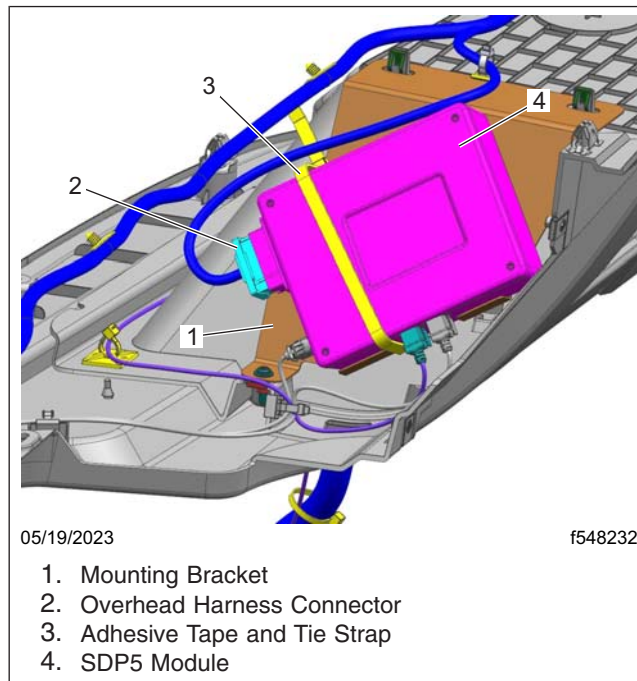
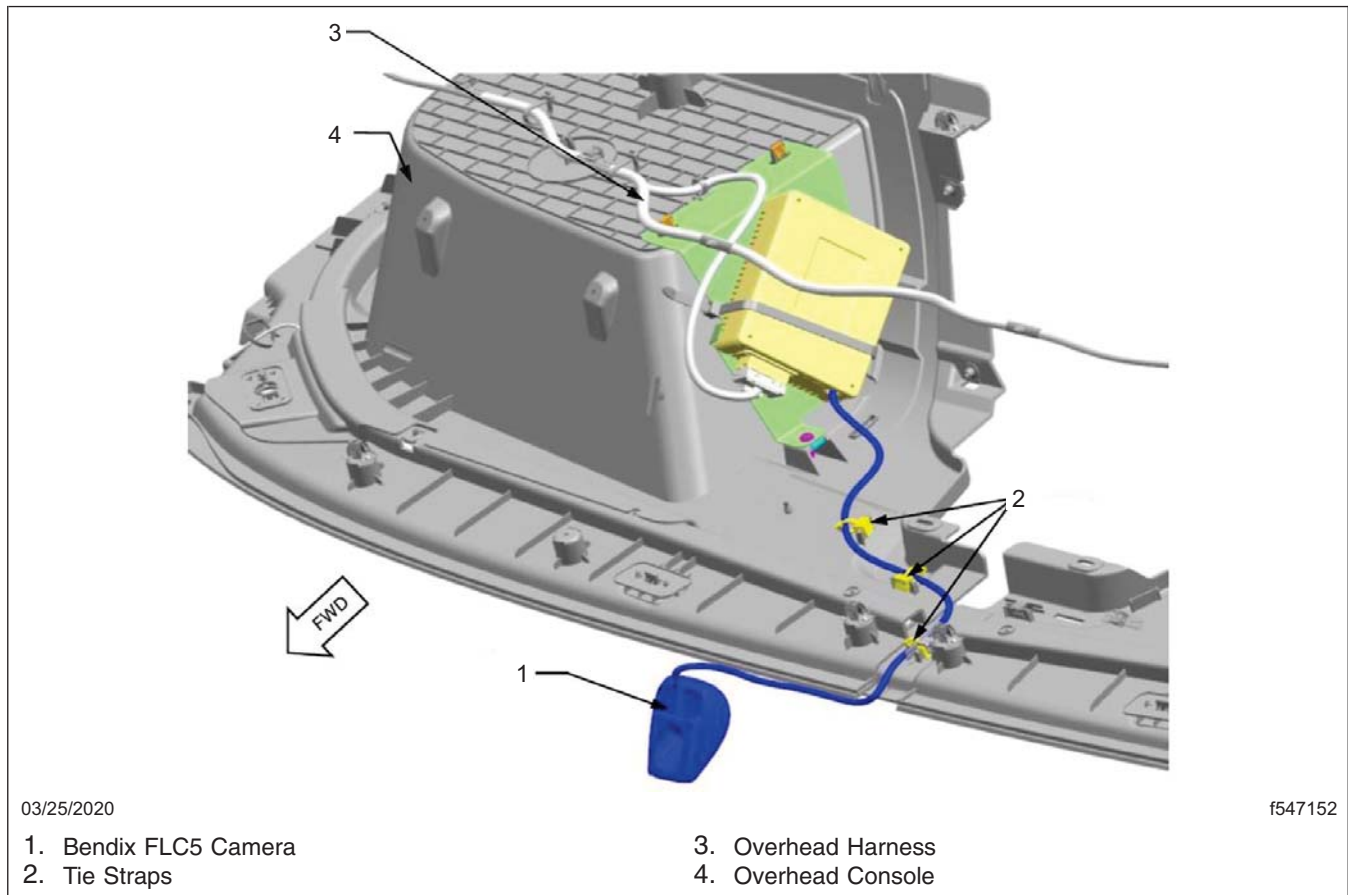
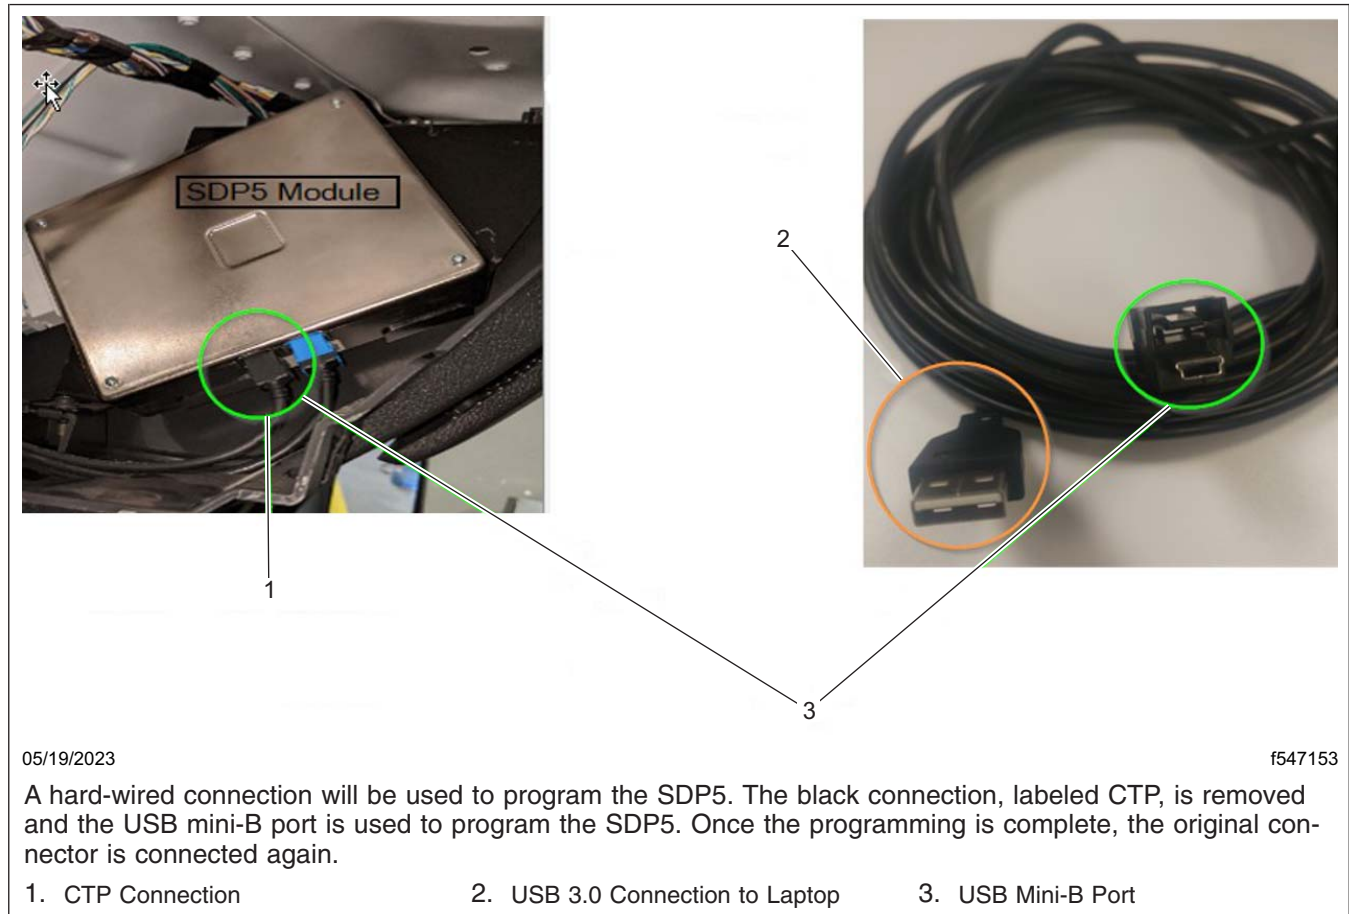

Fig. 16, SDP5 Module Removal
Fig. 17, Overhead Console Sub-Assembly
Fig. 18, Connecting to SDP5
6. The SDP5 module is secured to the mounting bracket using a hook-and-loop adhesive tape and a tie strap. Remove the SDP5 module from the mounting bracket to access the connector labeled 'CTP.' See Fig. 16, Fig. 17, and Fig. 18.